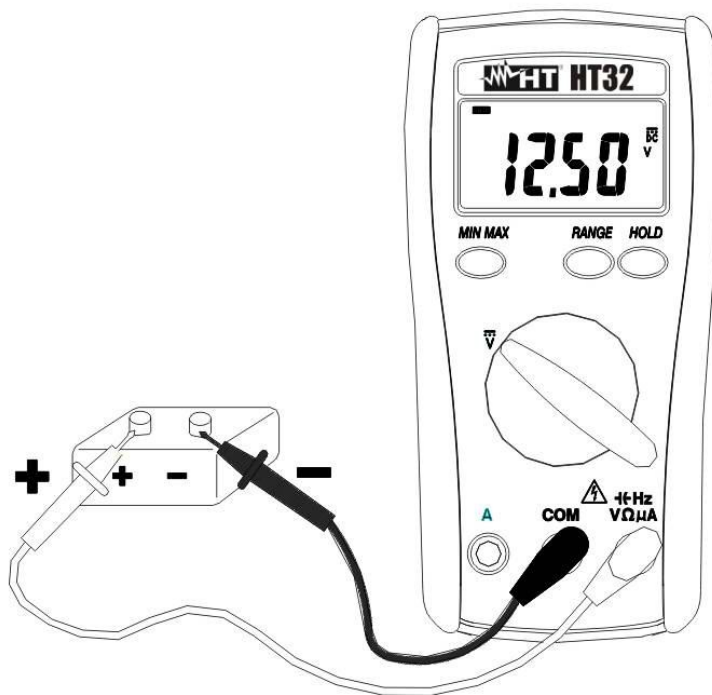

Fig. 2: DC Voltage measurement
2. Insert the test leads into the jacks, the red plug into $\text{10Hz V}\Omega\mu\text{A}$ jack and the black plug into **COM** jack (Fig. 2).
6. The symbol "-" on the display means that voltage has opposite direction than shown in Fig. 2.